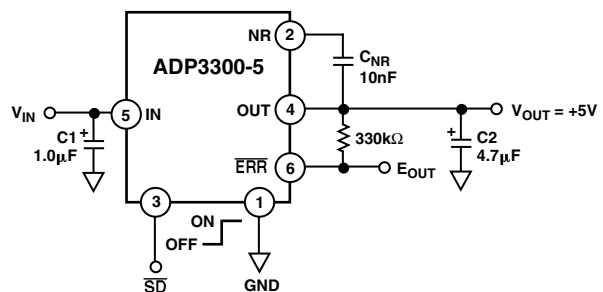

Figure 21. Noise Reduction Circuit
A noise reduction capacitor ( $C_{\text{NR}}$ ) can be used to further reduce the noise by 6 dB–10 dB (Figure 21). Low leakage capacitors in the 10 nF–100 nF range provide the best performance. For load current less than 200  $\mu\text{A}$ , a 4.7  $\mu\text{F}$  output capacitor provides the lowest noise and the best overall performance. Since the noise reduction pin (NR) is internally connected to a high impedance node, any connection to this node should be carefully done to avoid noise pickup from external sources. The pad connected to this pin should be as small as possible. Long PC board traces are not recommended.